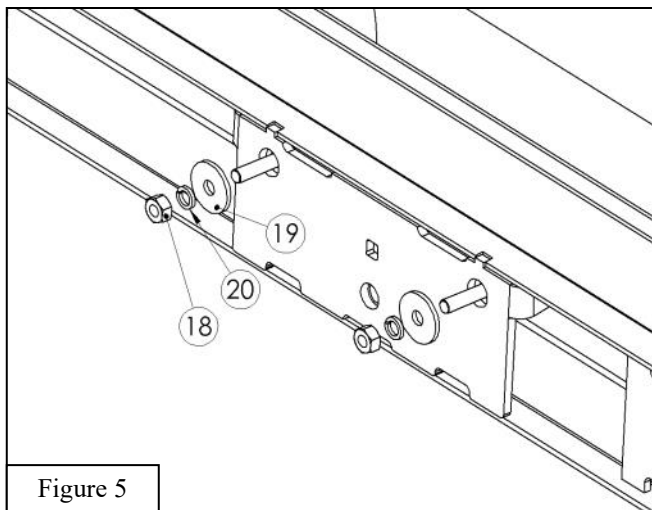

Figure 5
4. Insert (6) M6 bolt plates (item 21) into the XTS rock slider driver side and tape them in place.
5. Use the M6 hardware (items 18-20) to loosely attach the rock slider to the pinch weld. See **Figure 5**.